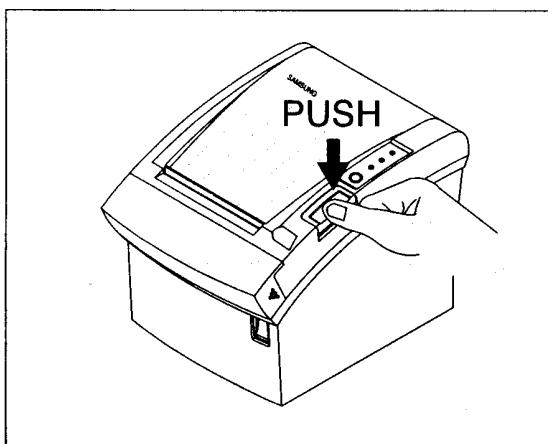

Figure 3-9 Wall Mount #5
5. Check whether it works properly by pressing the Push Button after tightening the screw. (Figure 3-9)